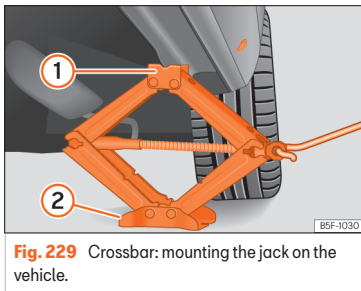

Fig. 229 Crossbar: mounting the jack on the vehicle.
- Turn the jack crank handle, located below the crossbar support point, to raise it until the tab ① >>> Fig. 229 is below the housing that is provided.
- Align the jack so that the tab ① “grips” onto the housing provided on the cross member and the mobile base ② is resting on the ground. The base plate ② should fall vertically with respect to the support point ①.